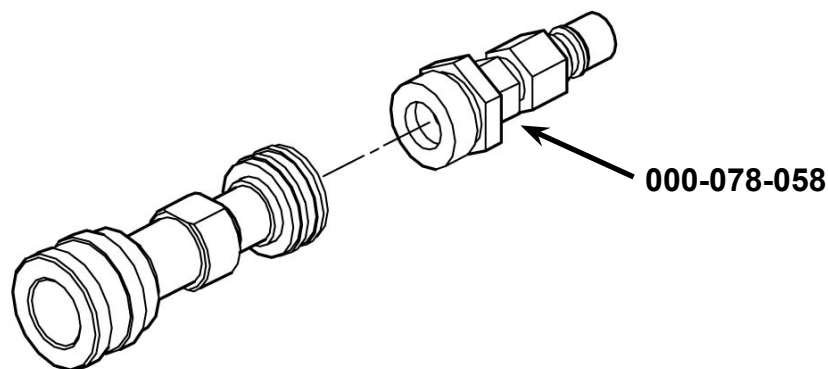

Figure 4-3. Recirculation Fitting
2. Attach the recirculation fitting provided in the kit to the garden hose quick connect (see Figure 4-3) and this combination to the front of the truckmount.